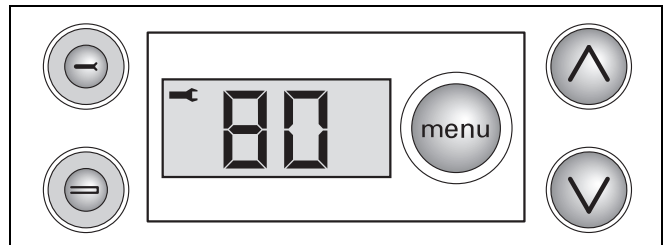

fig. 54 DBA with open-end spanner
- Set the boiler to partial load by pressing the service button "⊖" once. A symbol of an open-end spanner "🔧" appears in the upper left hand corner of the display (see fig. 54).